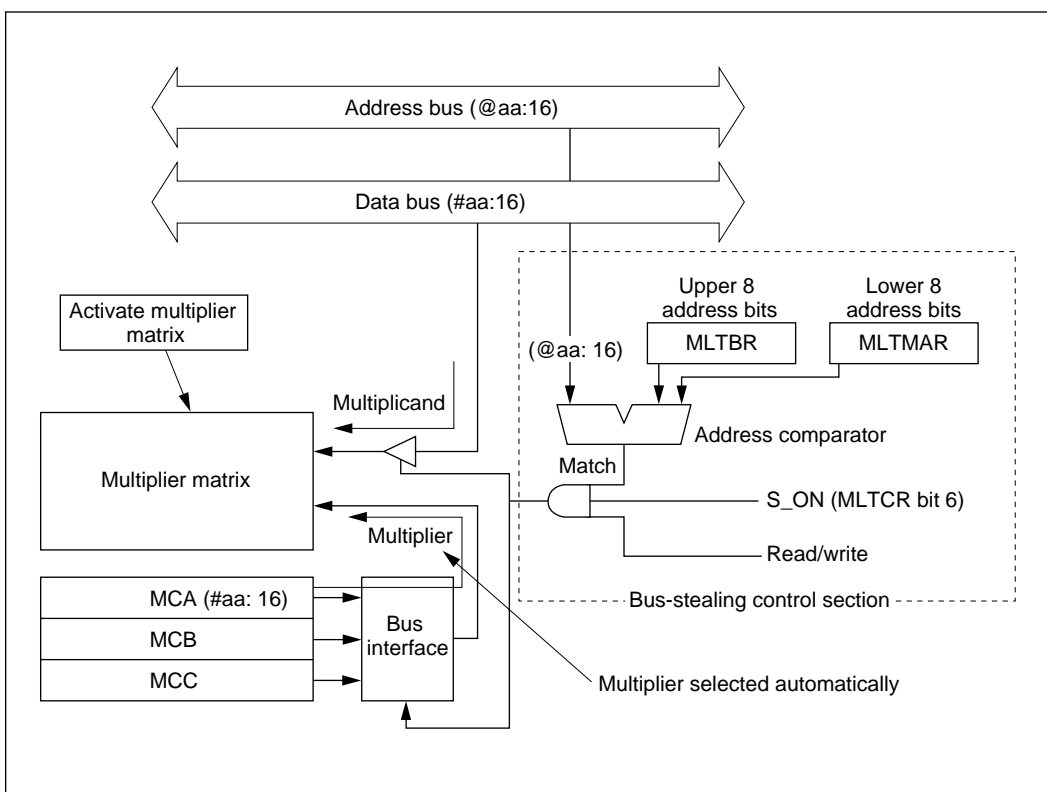

Figure 5-3 Loading of Multiplicand and Activation of Multiplier by Bus Stealing
(2) Loading of Multiplicand and Activation of Multiplier by Bus Stealing: Figure 5-3 shows the loading of the multiplicand and automatic selection of the multiplier register by bus stealing. If the S_ON bit is set to 1, the H8MULT module monitors the address bus when the CPU accesses its memory address space, and compares the address (@aa:16) on the bus with the MULT base address register (MLTBR) and MULT multiplicand address register (MLTMAR).